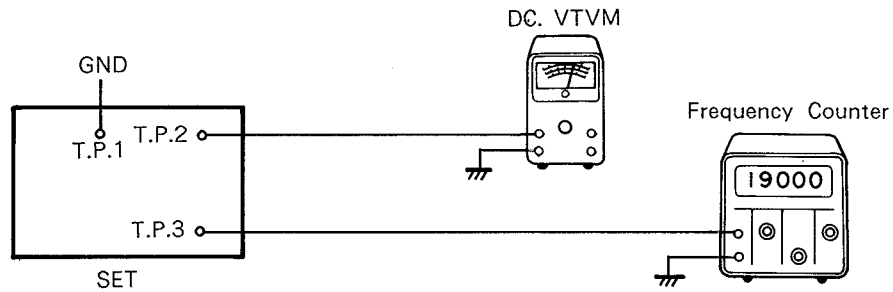

Figure 29
- (1) Disconnect the connector CB102 of the digital P. C. Board and connect as shown in Figure 29.
- (2) After switching the power on, adjust VR203 for T.P. 2 voltage to obtain  $0 \pm 50\text{mV}$
- (3) Also adjust L201 for frequency at T.P. 3 to obtain  $4.3218\text{Hz} \pm 10\text{KHz}$ .